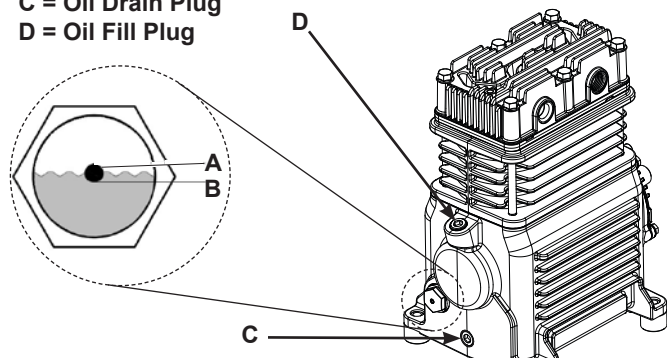

Fig. 6
2. Check the oil level in the pump (See **Fig. 6**, "Checking the Oil" in the maintenance section).
1. Check the oil level in the pump (See **Fig. 6**, "Checking the Oil" in the maintenance section).
Check the level of oil in the pump with the sight glass (See **Fig. 6**). The pump oil level must be between (A) and (B). Do not overfill or underfill.
Remove the oil drain plug (See **Fig. 6 C**) and drain the oil until it slows to a drip, then close. Unscrew the oil fill plug (D) and add compressor oil until it is full (A). Replace the oil fill plug. Never overfill or under fill the pump.